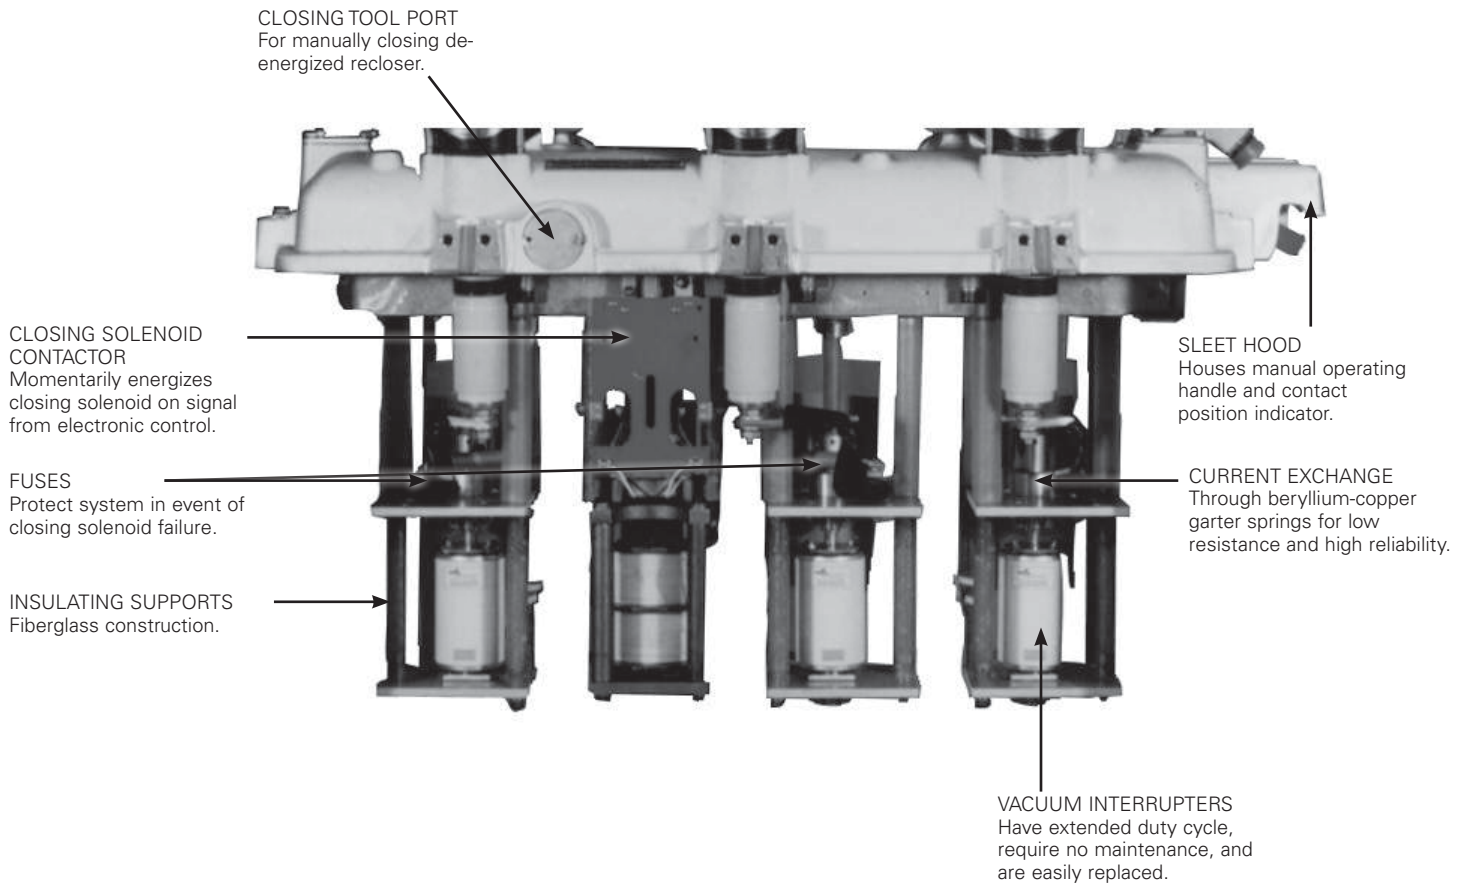

Figure 2. Untanked Type VWVE27 vacuum recloser (shown from closing contractor side)
- Vacuum interruption is utilized by Types VWE, VWVE27, and VWVE38X reclosers (Figure 2). A single break on each phase is accomplished by separating a set of contacts within the vacuum chamber. Low-energy arc interruption in a vacuum extends the duty cycle and results in less shock and demonstration, extending recloser mechanism life.